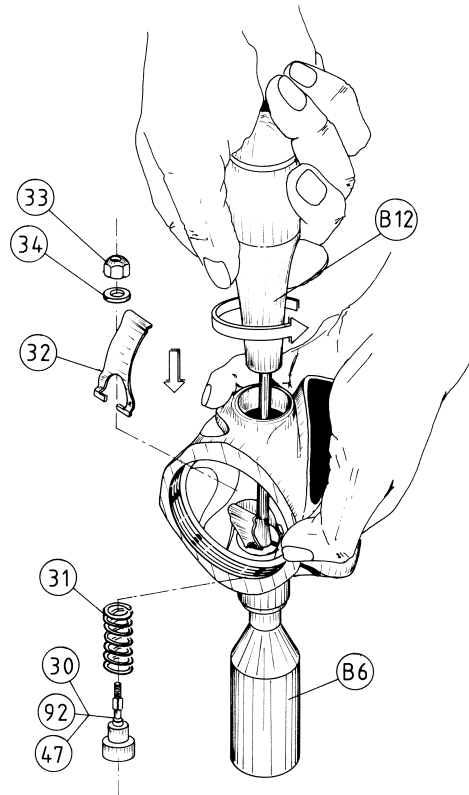

FIG. 2
18. Position the 2nd stage case (32) on the special tool (B-6) (Fig. 2).
19. Exerting a slight pressure, back off the demand lever adjusting nut (33) using the special tool (B-12), and working through the hole in the 2nd stage case (Fig. 2).
20. Remove the demand lever adjusting nut (33), the washer (34), the 2nd stage poppet assembly and the spring (31) from the 2nd stage case (32) (Fig. 2).